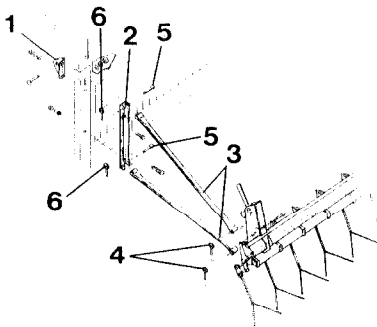
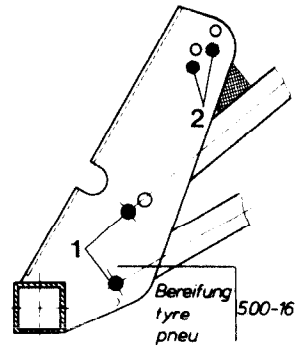

Fig. 76
Fig. 77
- The reinforcement angle (Fig. 76/1) is already fixed to your seed drill.
- Attach the upper mounting brackets (Fig. 76/2) to the seed box.
- The extra coverage harrow has to be bolted with two bolts according to Fig. 77/1 to the carrying tubes (Fig. 76/3) and to be secured by lynch-pins (Fig. 76/4).
- The swing metal buffer has to be fitted according to Fig. 77/2.
- Now the carrying tubes (Fig. 76/3) should be fitted with pins (Fig. 76/6) to the upper channel iron (Fig. 76/2) and secured with lynch pins.